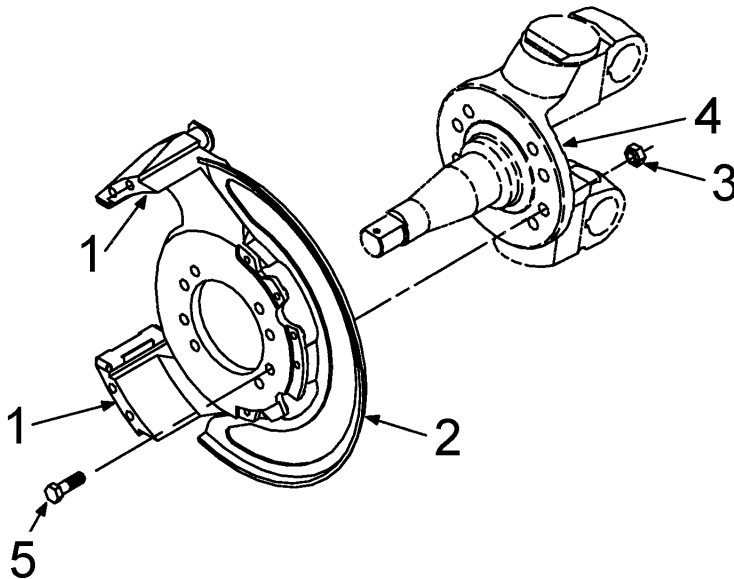
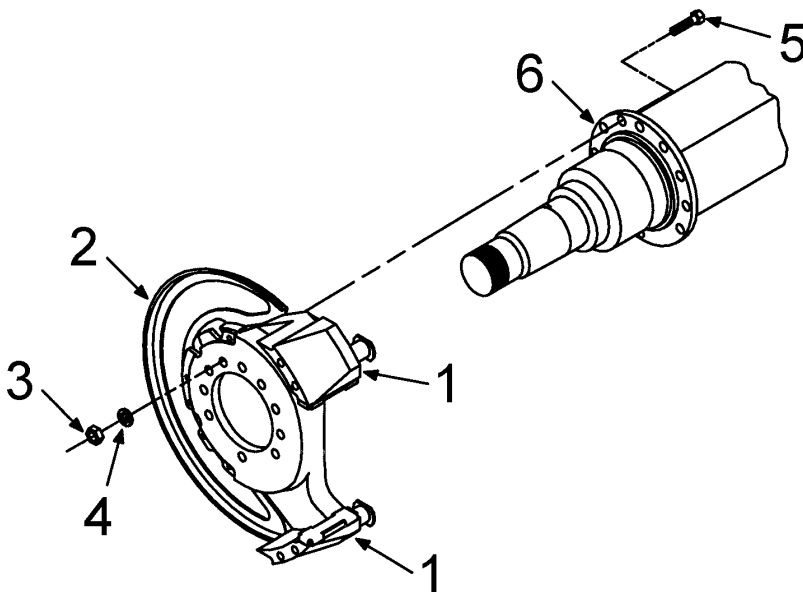
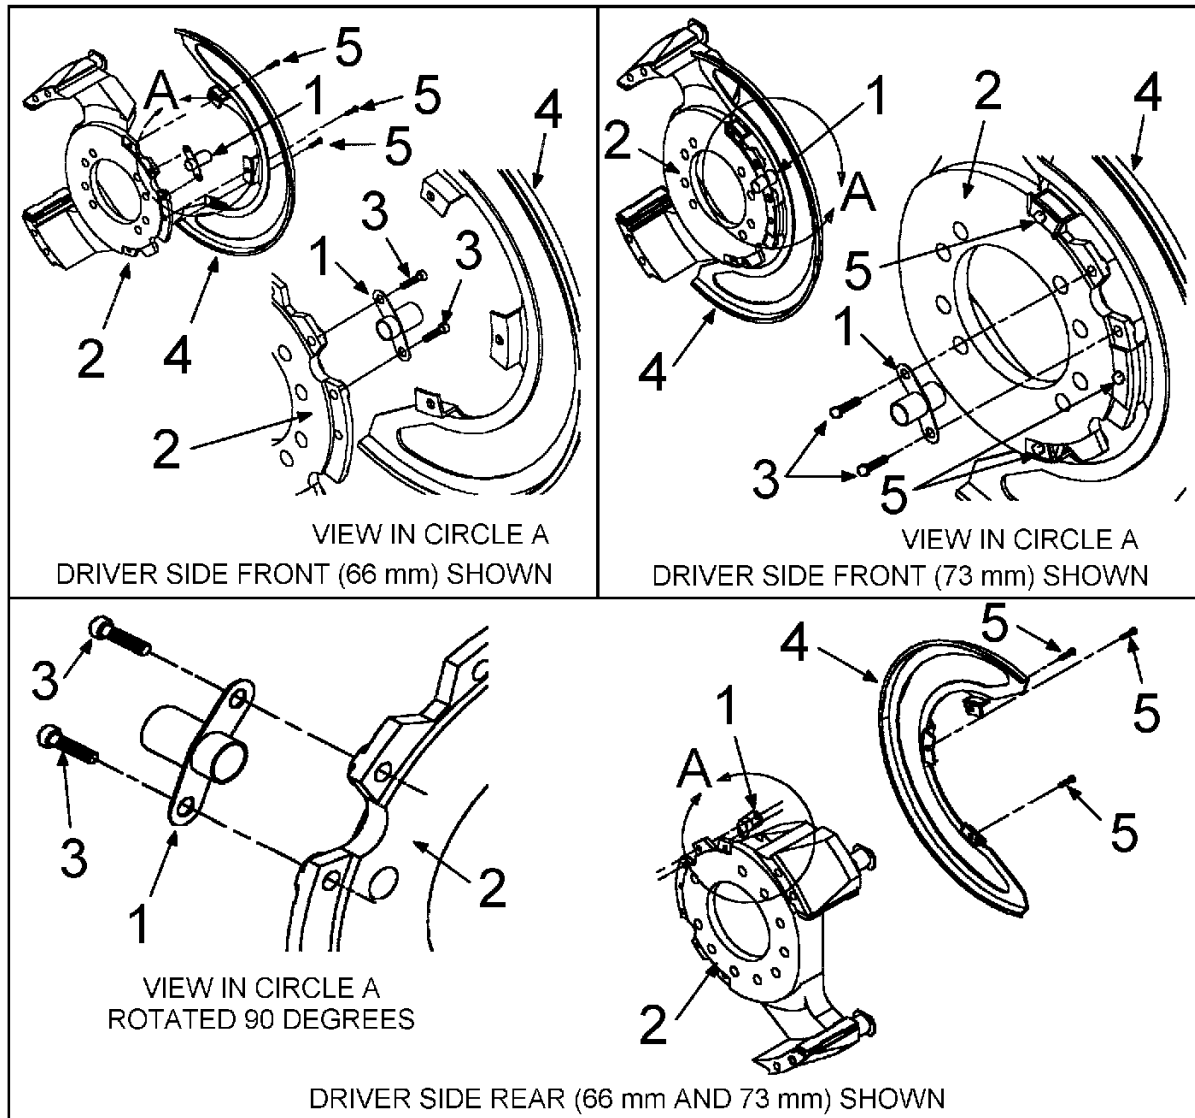

Figure 36 Remove Front Anchor Plate and Splash Panel
Figure 37 Remove Rear Anchor Plate and Splash Shield
Figure 43 Remove ABS Sensor Bracket and Splash Shield from Anchor Plate
5. Before removing the anchor plate and splash shield from the steering knuckle flange (Item 4, Figure 36) (See Figure 36, page 39) you must remove the ABS sensor (if so equipped) from the ABS sensor bracket (Item 1, Figure 43) (See Figure 43, page 46).
Refer to Figure 36 for Items in parentheses.
8. Before removing the anchor plate and splash shield from the rear axle flange (Item 6, Figure 37) (See Figure 37, page 40) you must remove the ABS sensor (if so equipped) from the ABS sensor bracket (Item 1, Figure 43) (See Figure 43, page 46).
Refer to Figure 37 for Items in parentheses.
Refer to Figure 43 for Items in parentheses.
6. Clean abutment slippers (Item 4) and ABS sensor bracket (Item 1, Figure 43) (See Figure 43, page 46) with solvent. Use compressed air to clean and dry. Wipe off with a dry, clean, lint free cloth.